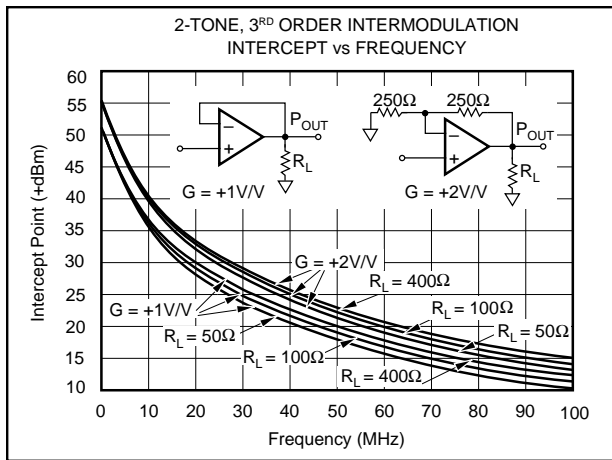

FIGURE 9. 2-Tone, 3rd Order Intermodulation Intercept vs Frequency.
Two-tone third-order intermodulation distortion (IM) is an important parameter for many RF amplifier applications. Figure 9 shows the OPA620’s two-tone third-order IM intercept vs frequency. For these measurements, tones were spaced 1MHz apart. This curve is particularly useful for determining the magnitude of the third-order IM products as a function of frequency, load resistance, and gain. For example, assume that the application requires the OPA620 to operate in a gain of +2V/V and drive 2Vp-p into 50Ω at a frequency of 10MHz. Referring to Figure 9 we find that the intercept point is +40dBm. The magnitude of the third-order IM products can now be easily calculated from the expression: